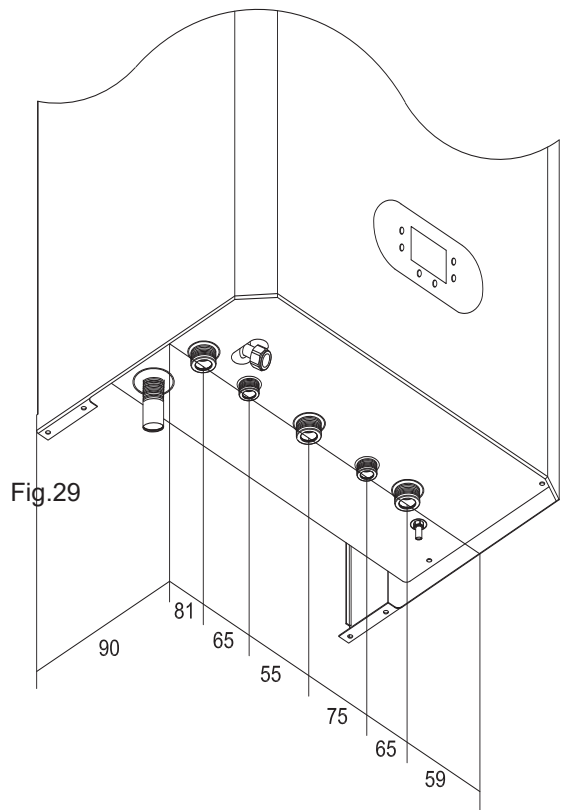

Fig.29
Remove plastic caps from boiler connection and fit valves as per fig. 29 using the washers provided.
**5.22 GAS CONNECTION (Fig. 29)**
**5.23 CENTRAL HEATING CONNECTION (Fig. 29)**
**5.24 DOMESTIC HOT WATER CONNECTION (Fig. 29)**
The condensate drain connection is a flexible 3/4" pipe and is therefore adjustable Fig. 29.